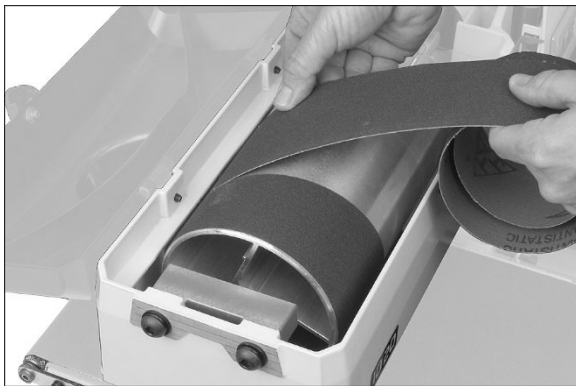

Figure 5-5
5. Continue to wrap abrasive in spiral fashion by rotating drum with one hand and guiding strip with the other. See Figure 5-5.